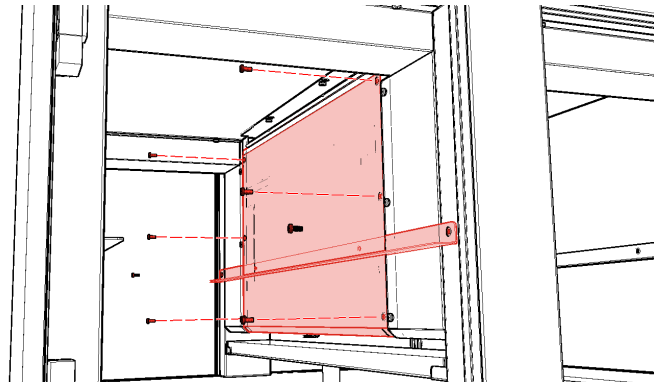

Fig. 13
1. Remove six (6) M5 × 12 screws on LEFT side of evaporator module. Lift module access panel away to remove (Fig. 13).